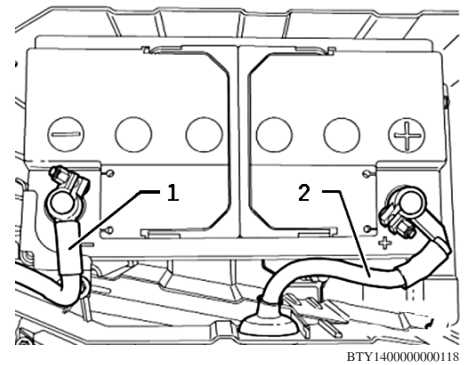

Fig. 6 Battery cable disconnect
11. Disconnect ground cable (1) from battery, **Fig. 6**.
12. Disconnect positive cable (2) from battery, **Fig. 6**.
5. Connect positive cable (2) to battery and **torque** to 53 inch lbs., **Fig. 6**.
6. Connect ground cable (1) to battery and **torque** to 53 inch lbs., **Fig. 6**.